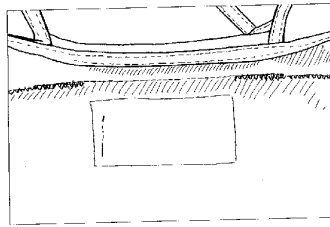

Figure 8
- 2.4 Mark the perimeter of the pocket on the outside of the backpad. Make sure the top line of the pocket is square to the stitch row above for cosmetic purposes. Fig. 8.